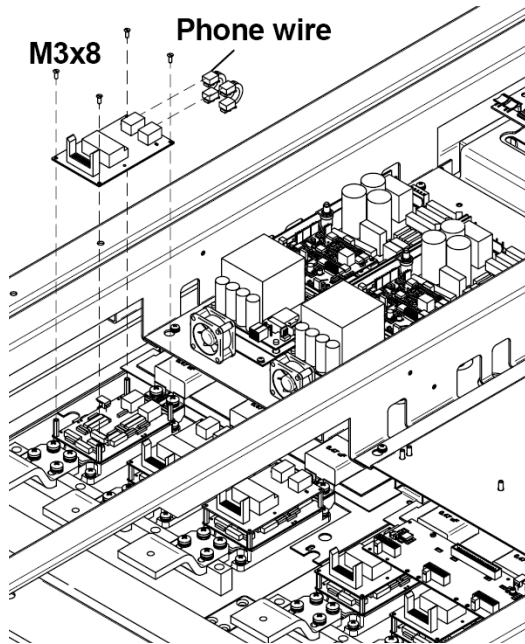

Figure 5.15. Disassembly of upper Gate Drive
Follow figure 5.15 while reading these instructions:
- 2) Place the new board on the hexagonal spacers **M3x18**. (figure 5.15).